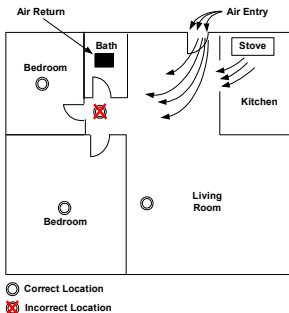

Figure 6: Recommended Smoke Detector Locations
- E** Do not mount smoke detectors in the path of fresh air intake. The flow of fresh air in and out can drive smoke away from the smoke detector; thus reducing its efficiency. Figure 6 indicates the correct and incorrect locations concerning this problem.